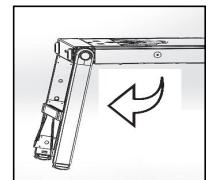

Fig.1
1. Release all legs from their locking position, rotate each pair of legs until you can't move them anymore. (Fig.1)